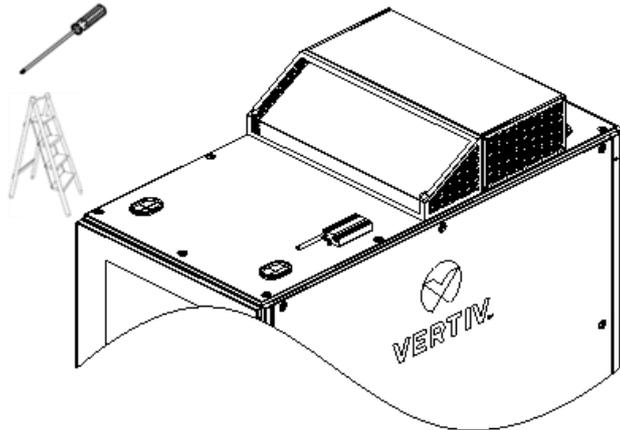

Figure 2-24 Install GSM MODEM at Top of Cabinet
3. Install the GSM MODEM at the top of the cabinet with a built-in adapter according to figure 2-24.